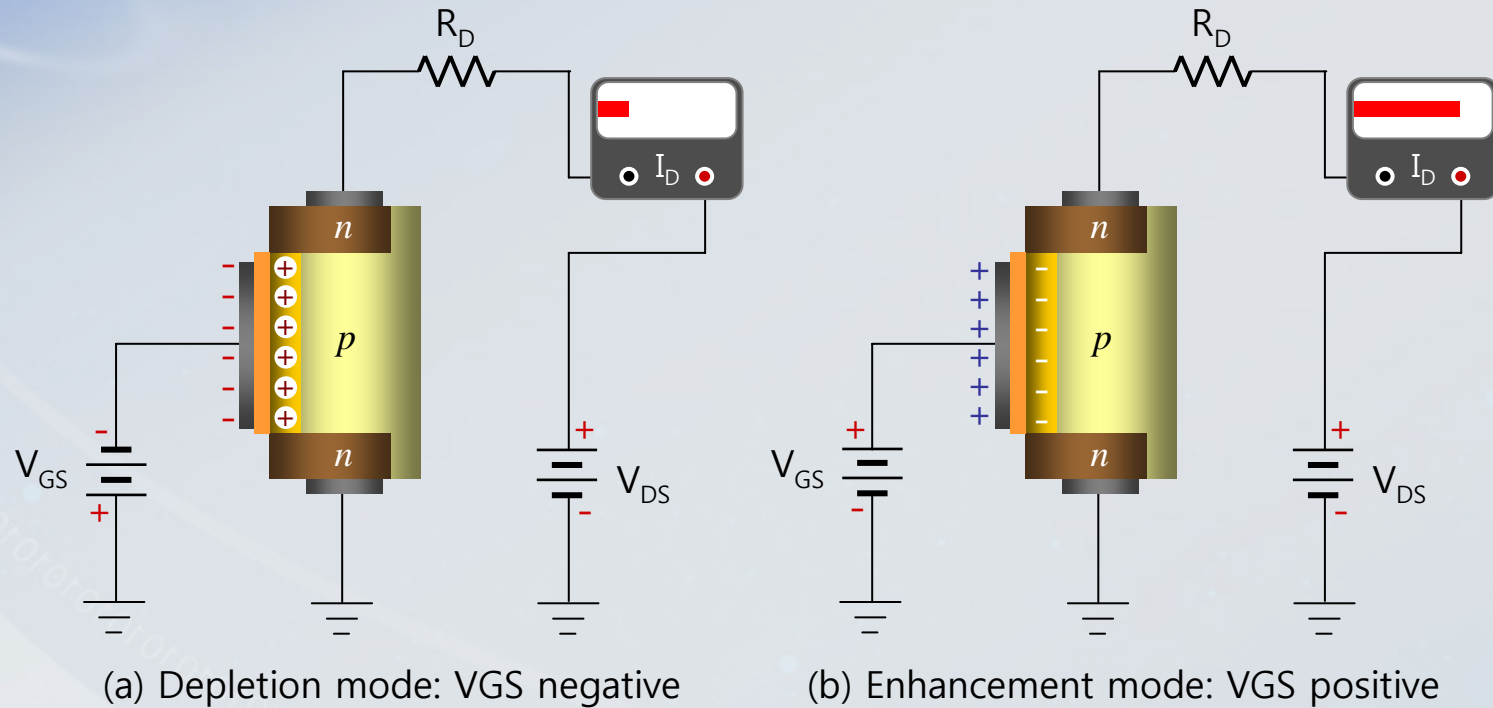

Figure 1-39. Operation of n-channel D-MOSFET.
- This depletion mode is illustrated in Figure 1-39(a).
- With a positive gate voltage, more conduction electrons are attracted into the channel, thus enhancing the channel conductivity, as illustrated in Figure 1-39(b).